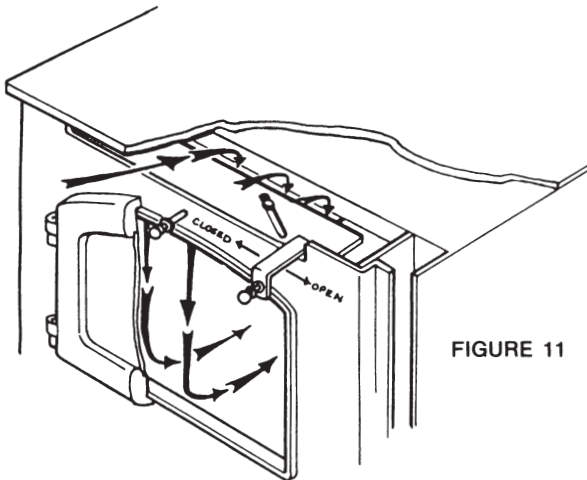

FIGURE 11
NOTE: When the air intake control is fully opened, air sweeps down across the glass creating a wash of air in front of the glass and blocks smoke from clouding it. As the air intake is closed, less air washes the glass and the glass will become smokey. (See figure 11)
1. Pull open the bypass damper located directly over the middle of the door. Open the air intake control as previously outlined by sliding knob fully to the right. (See figure 11)